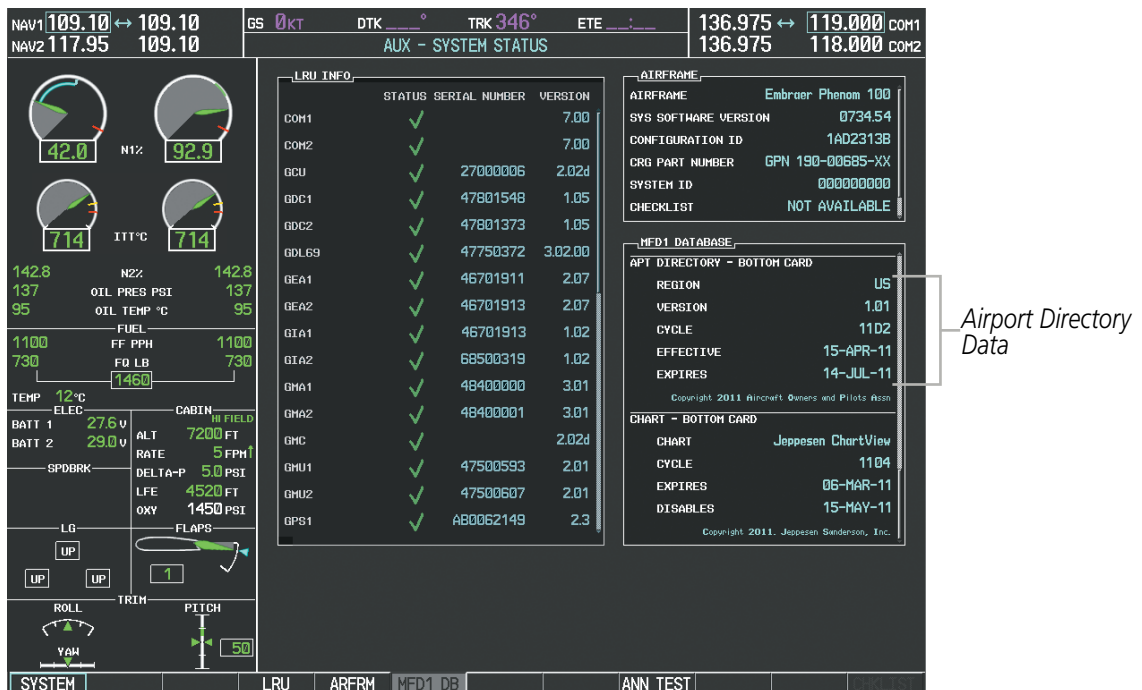

Figure 8-72 AUX – System Status Page, Airport Directory Current Information
The Airport Directory Region, Version, Cycle, Effective date and Expires date of the database cycle can also be found on the AUX - System Status page, as seen in Figure 8-72.
A subscriber account must be established prior to using the Iridium Satellite System. Before setting up an Iridium account, obtain the serial number of the Iridium Transceiver (GSR1) and the System ID by selecting the AUX- SYSTEM STATUS Page as shown in Figure 8-72. Contact Garmin Flight Data Services at 1-866-739-5687 in the United States or 913-397-8200, ext. 1135.
- 2) Turn the small **FMS** Knob to select SYSTEM STATUS. The AUX-SYSTEM STATUS Page is displayed. Note the System ID number in the AIRFRAME field as seen in Figure 8-72. This number will be needed when contacting Garmin Flight Data Services to establish the account.